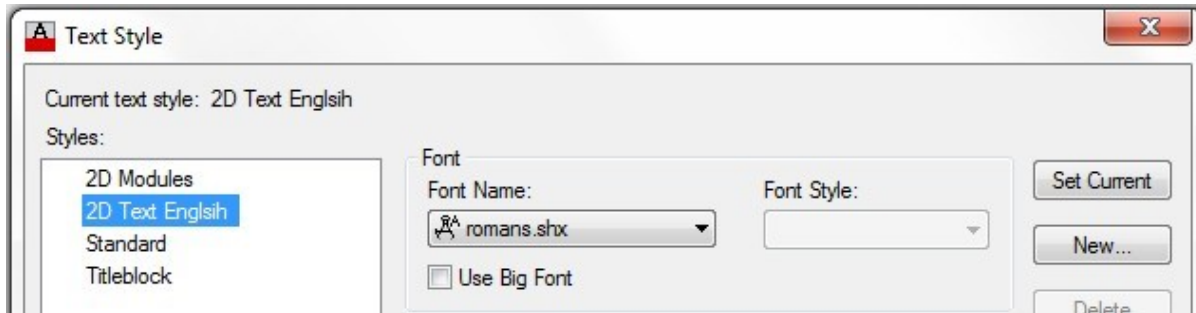

Figure Step 13
Step 12 will open the Text Style dialogue box. This is the same dialogue box that you open when you use the STYLE command. Using what you already learned, set the current text style to: 2D Text English with the font: romans.shx. (Figure Step 13)